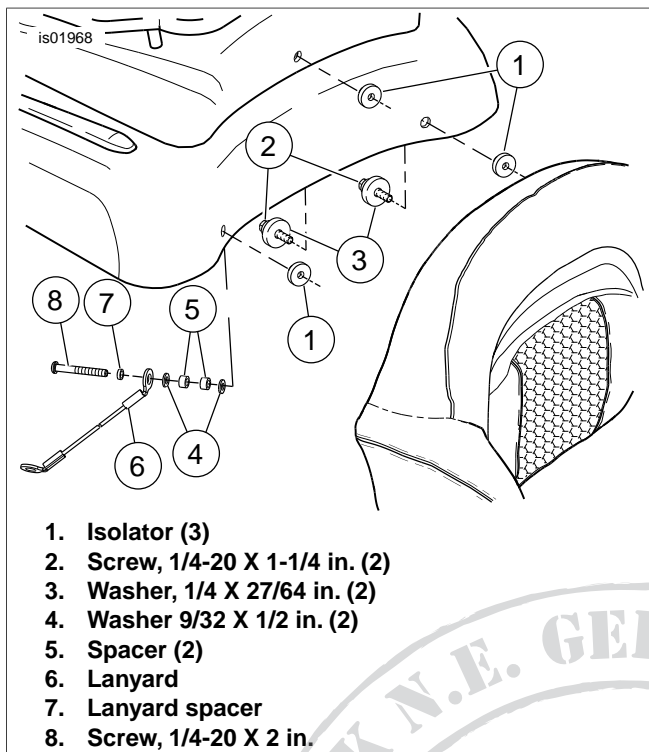

Figure 4. Backrest Installation
See Figure 4 for Steps 1-4.
2. Insert three isolators (1) into the three backrest mounting holes in the Tour-Pak lid.
3. Install the Tour-Pak backrest to the Tour-Pak lid with two screws (2) and washers (3). Tighten screws to 25 **in-lbs** (2.8 Nm).
4. Install screw (8) into the backrest through the lanyard spacer (7), lanyard (6), two plastic spacers (5) and two washers (4) in the order shown in Figure 4. Tighten screw to 25 **in-lbs** (2.8 Nm).